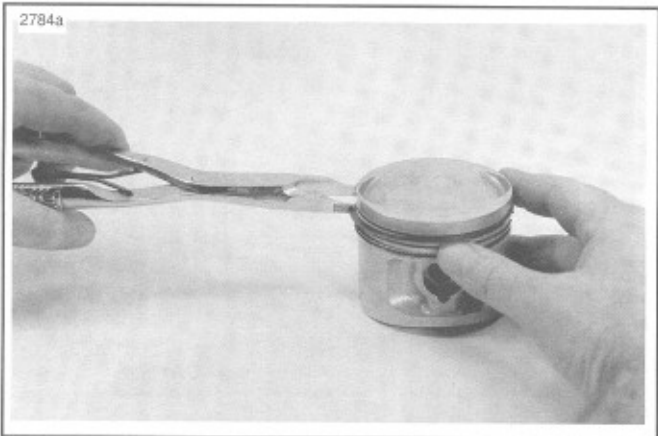

Figure 3-32. Installing Piston Rings
2. See Figure 3-32. Apply engine oil to piston grooves. Use a piston ring expander tool to slip compression rings over piston into their respective grooves. Be extremely careful not to over expand, twist rings, or damage piston surface when installing rings.